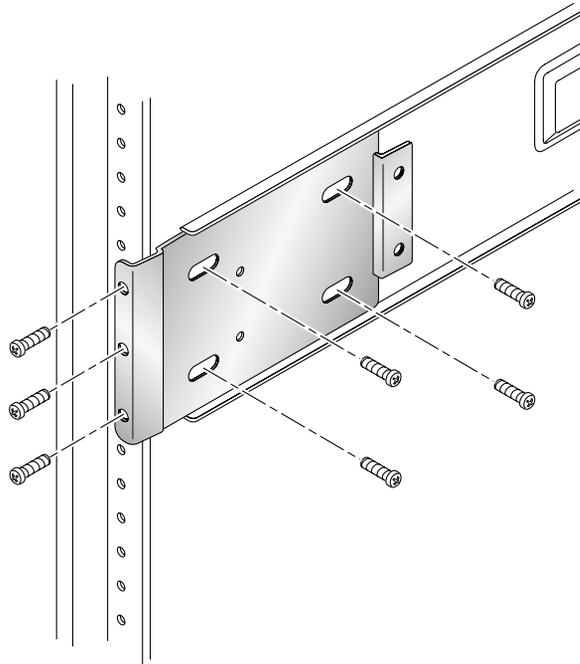

FIGURE 6 Mounting the Back Expansion Bracket of the Side Rail
- c. Loosen the four expansion screws holding the back bracket to the side rail (FIGURE 6).**
- 3. Align the three back holes of the side rail with the holes for three rack units (RU) in the back mounting rail of the cabinet (FIGURE 6).**